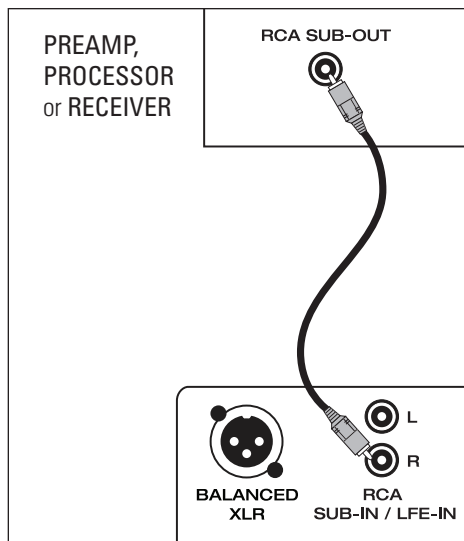

Fig. 3a
Line-Level RCA Input (Figs. 3a – 3b)
1. **Mono Input (Left, Right, or Sub-Out)** connects from the RCA (S/E) Sub/LFE-Output of your Preamplifier/Processor, A/V Receiver or other suitable low level source (Fig. 3a).